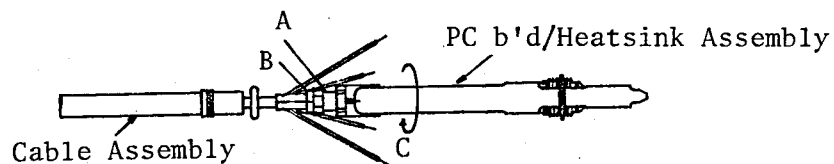

Figure 6-9. PC Board/Heatsink Assembly Removal
- a. Hold the probe at positions A and B as shown in Figure 6-9 using pliers or a wrench.
- b. Remove the PC Board/Heatsink assembly by rotating it in the direction of arrow C as shown in Figure 6-9.